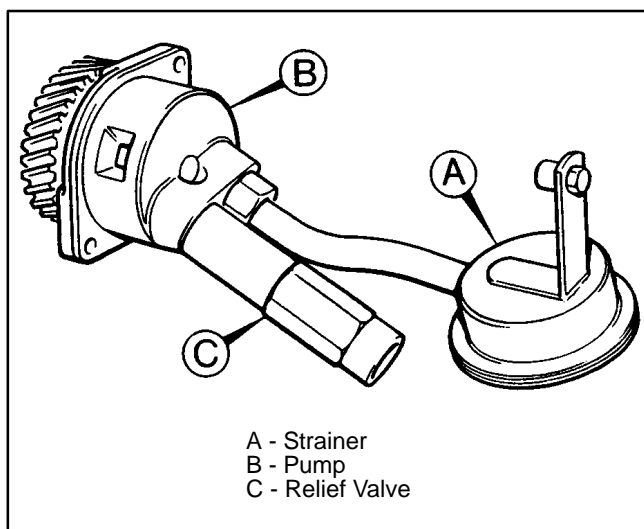

FIGURE 8-30. OIL STRAINER AND PUMP
The oil pump (Figure 8-30) gear is driven by the camshaft gear. The oil pump assembly includes a removable strainer and oil relief valve.
3. Remove the oil strainer (Figure 8-30, Item A) and the relief valve (C) from inside the crankcase.
5. Ease the pump (B) out of the crankcase.